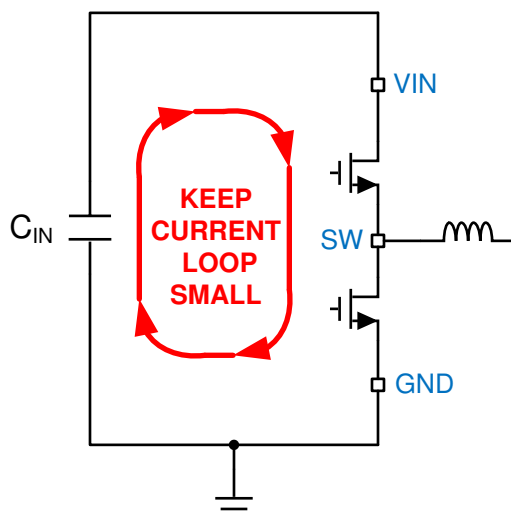
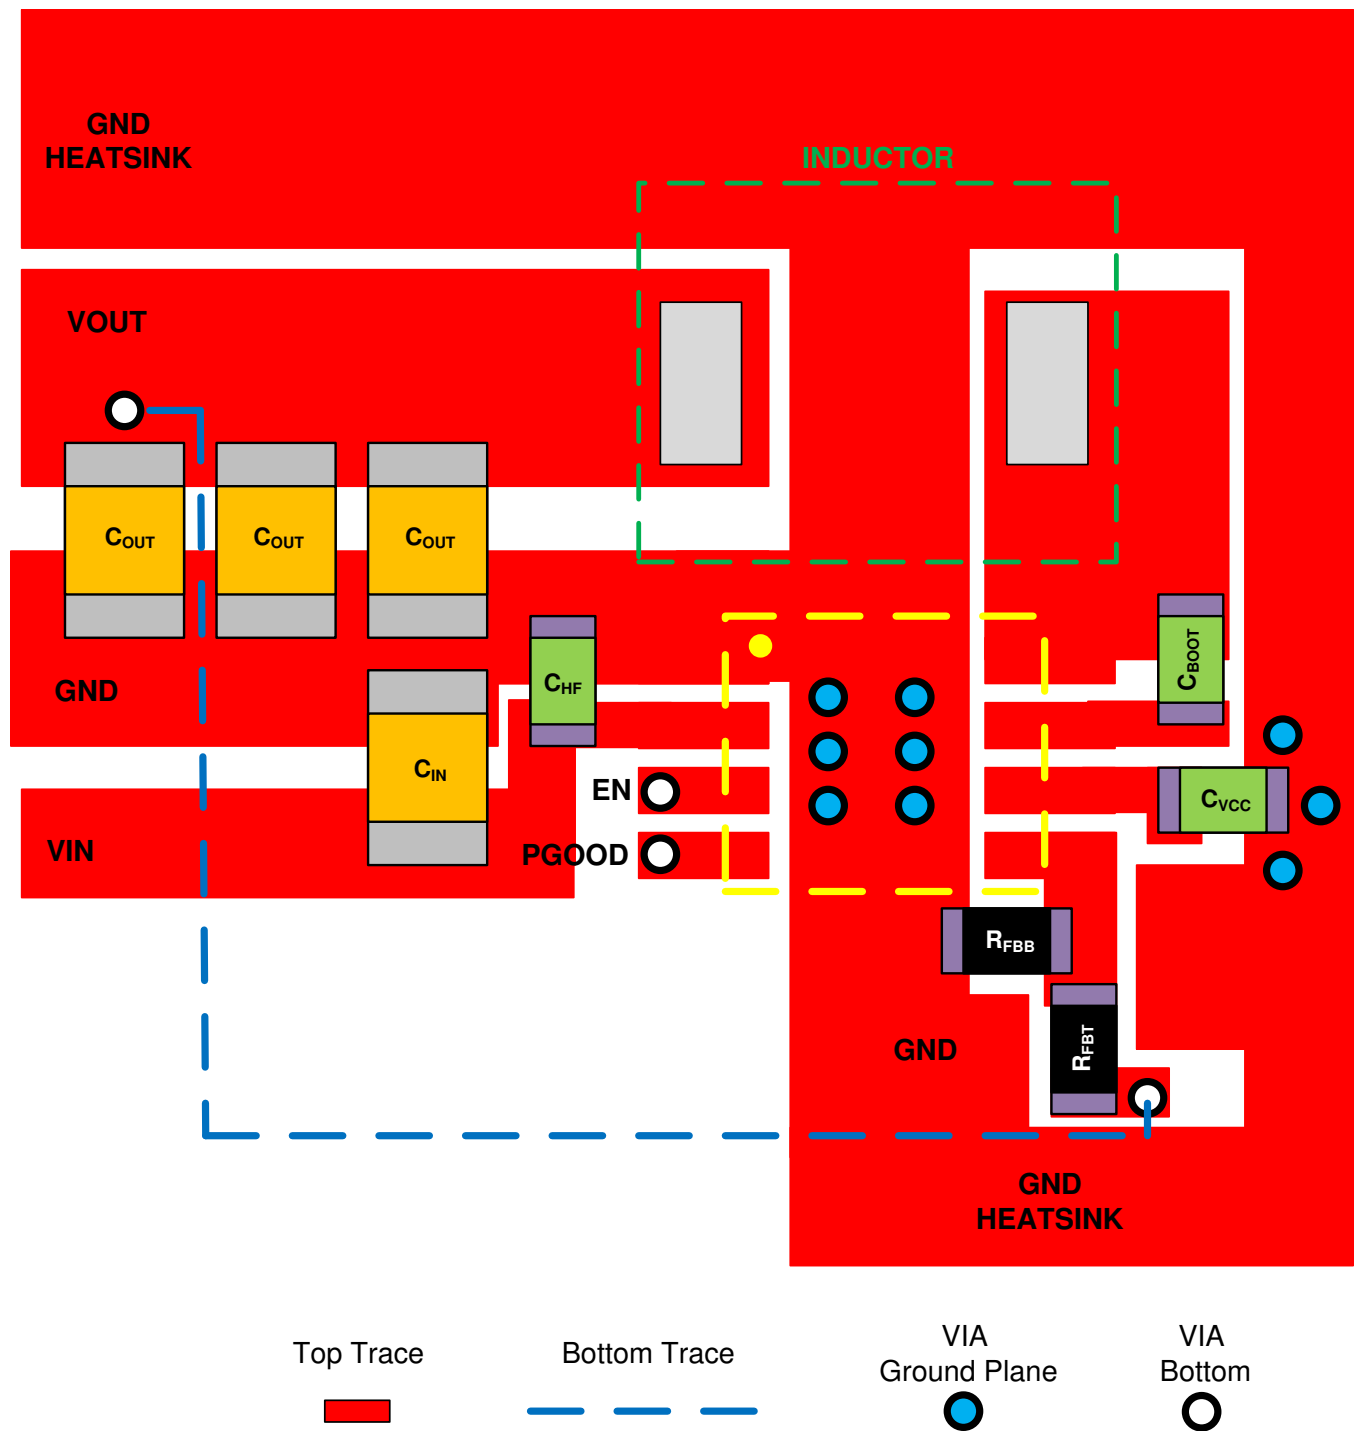

Figure 51. Current Loops with Fast Edges
Figure 53. Example Layout for WQFN Package
The PCB layout of any DC/DC converter is critical to the optimal performance of the design. Bad PCB layout can disrupt the operation of an otherwise good schematic design. Even if the converter regulates correctly, bad PCB layout can mean the difference between a robust design and one that cannot be mass produced. Furthermore, the EMI performance of the regulator is dependent on the PCB layout, to a great extent. In a buck converter, the most critical PCB feature is the loop formed by the input capacitor or input capacitors, and power ground, as shown in Figure 51. This loop carries large transient currents that can cause large transient voltages when reacting with the trace inductance. These unwanted transient voltages will disrupt the proper operation of the converter. Because of this, the traces in this loop must be wide and short, and the loop area as small as possible to reduce the parasitic inductance. Figure 52 and Figure 53 show recommended layouts for the critical components of the LMR33630.
1. **Place the input capacitor or capacitors as close as possible to the VIN and GND terminals.** VIN and GND pins are adjacent, simplifying the input capacitor placement. With the VQFN package there are two VIN/PGND pairs on either side of the package. This provides for a symmetrical layout and helps minimize switching noise and EMI generation. A wide VIN plane must be used on a lower layer to connect both of the VIN pairs together to the input supply; see Figure 53.